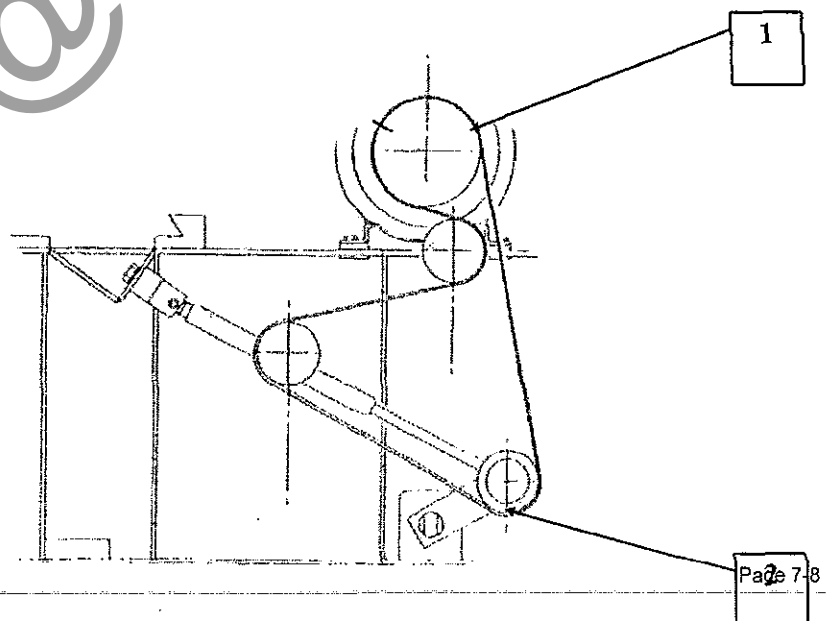

Figure 7.3.5
14. To re-assemble the spindle simply reverse the above procedure remembering to follow the belt tensioning information documented in ( Figure 7.3.5).
### 7.3.5 Replacing K23/K25 Fence and Near Side Head Drive Belts (Figure 7.3.5.)
3. Place the supplied lever tool (Figure 7.3.5.) with the hole in the tool fitting over the idle belt roller pivot.
6. Refer to Figure 7.3.5. to ensure the direction of the belt conforms to the spindle position on the machine.